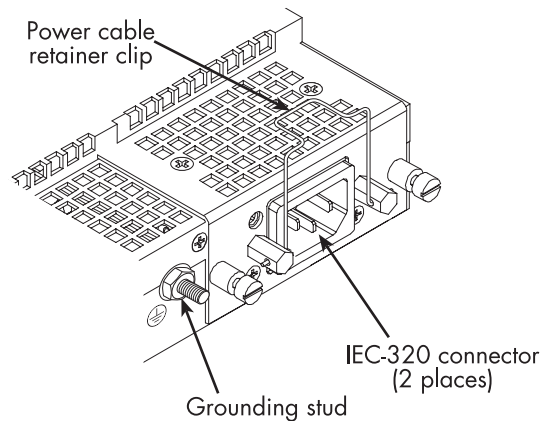

Figure 5. IEC-320 connector and grounding stud locations
- Install a power cable into an IEC-320 connector (see figure 5).